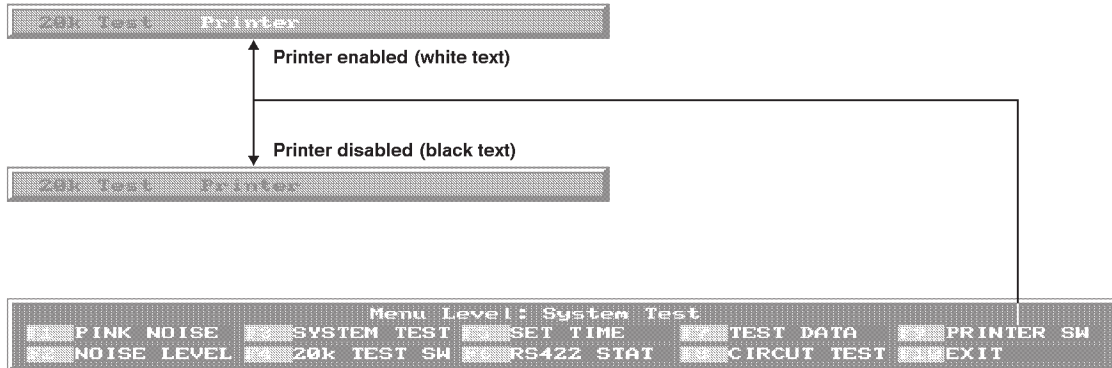

Figure 29 - System Test Menu
There is an on-screen indication of the status of the print function. When the word 'Printer' is shown in white, the print function is enabled. When shown in black, the function is disabled. See figures 29 and figure 1, item 9.